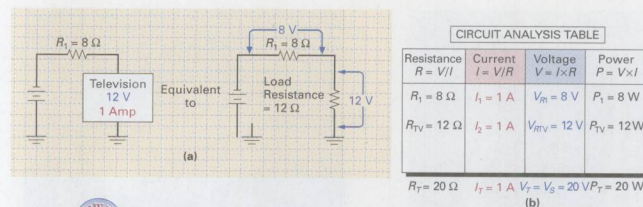

FIGURE 5-31 Series Circuit Example with Values Inserted. (a) Schematic, (b) Circuit Analysis Table.
- b. You may recall that any piece of equipment is equivalent to a load resistance. The TV set has 12 V across it and is pulling 1 A of current. Its load resistance can be calculated simply by using Ohm's law and deriving an equivalent circuit, as shown in Figure 5-31(a).
- d. Figure 5-31(b) shows the circuit analysis table for this example.